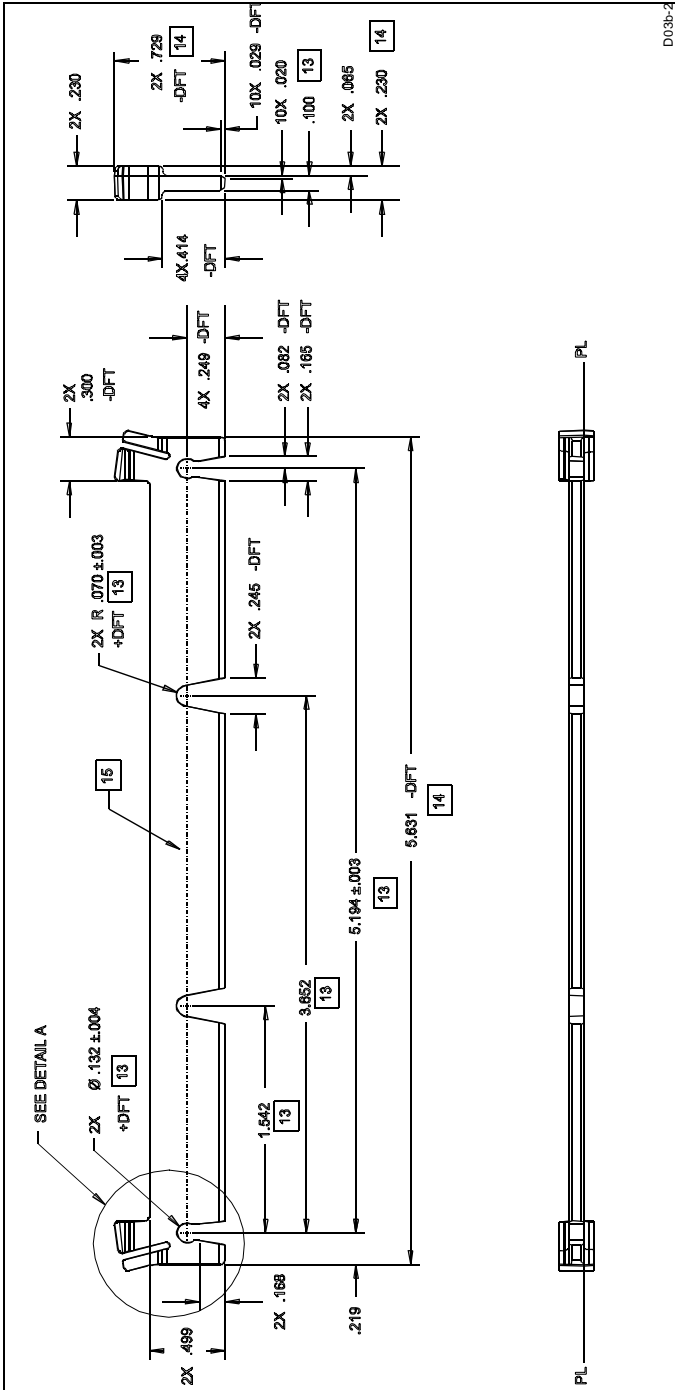
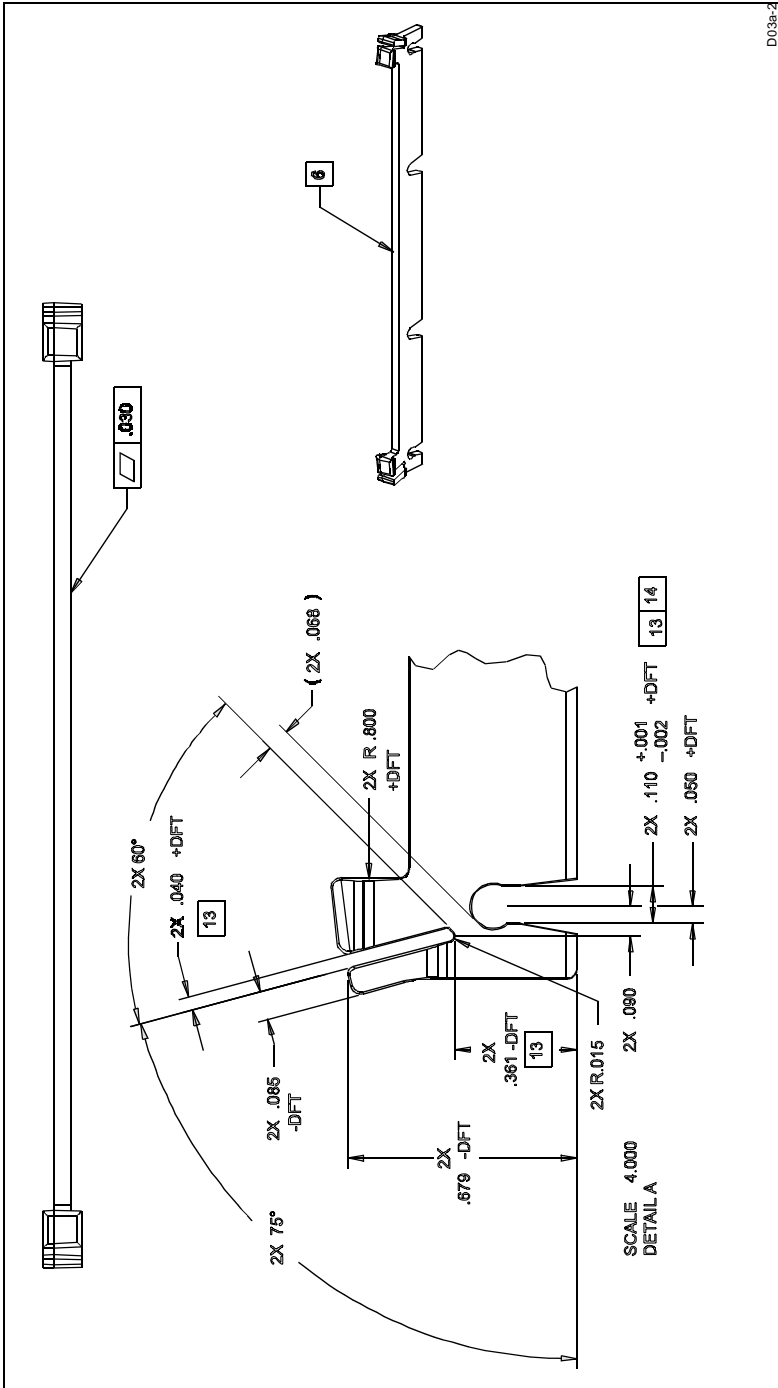

Figure 5-6. Heatsink Support, Top Bar (1 of 2)
Figure 5-7. Heatsink Support, Top Bar (2 of 2)
**NOTES: FOR HEATSINK SUPPORT TOP BAR (Figure 5-6 and Figure 5-7)**